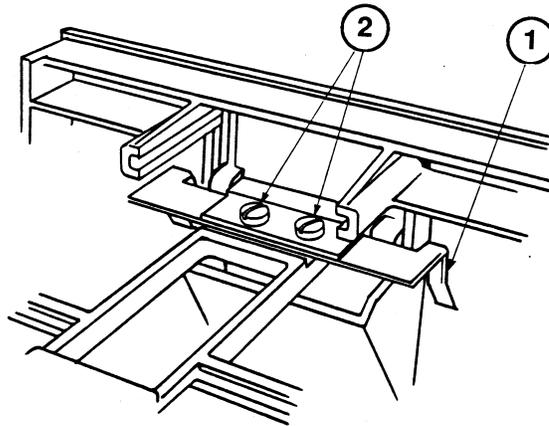

FIGURE 6
4. Remove the two screws that hold the door in place (Figure 6, #2), and remove the door assembly.
1. Set the new door in place, noting the position of the door guides (Figure 6, #1), and replace the screws to hold it in place.
4. While gently closing the drive door, observe the two guide bars (Figure 6, #1), which are visible when viewed from the back of the drive looking toward the front. The guide should not bind against the diskette or cause it to buckle.
7. Put the bezel into its normal position and replace the remaining two screws (Figure 6, #2).